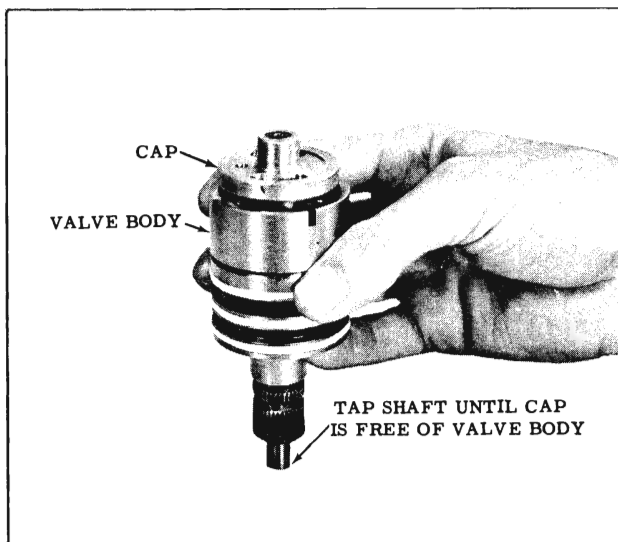

Fig. 4-53 Freeing Shaft Cap
- a. While holding the assembly (lower shaft down), lightly tap the lower shaft against the bench until the shaft cap is free from the valve body. (Fig. 4-53) The spool valve should be held in the valve body while tapping the shaft.